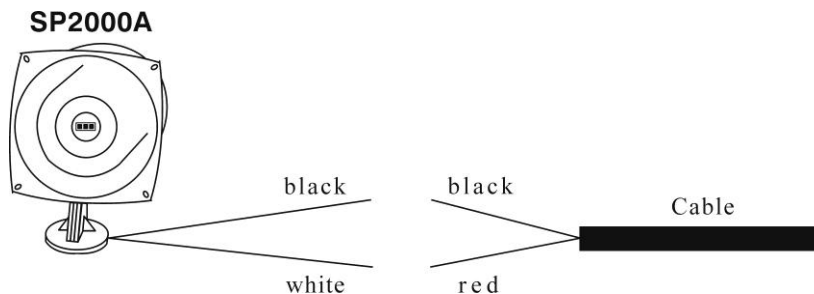

Figure 22. SP2000A cable connection
- Connect the red wire from the appropriate cable to the white SP2000A wire, and the black cable wire to the black SP2000A wire as shown in Figure 22. Do not connect the drain wire.